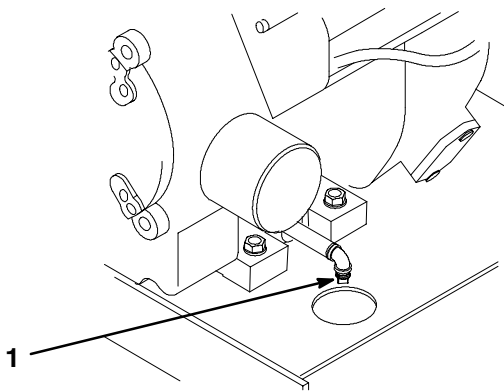

Figure 39
3. Place a pan below the oil drain. Remove the oil drain plug (Fig. 39).